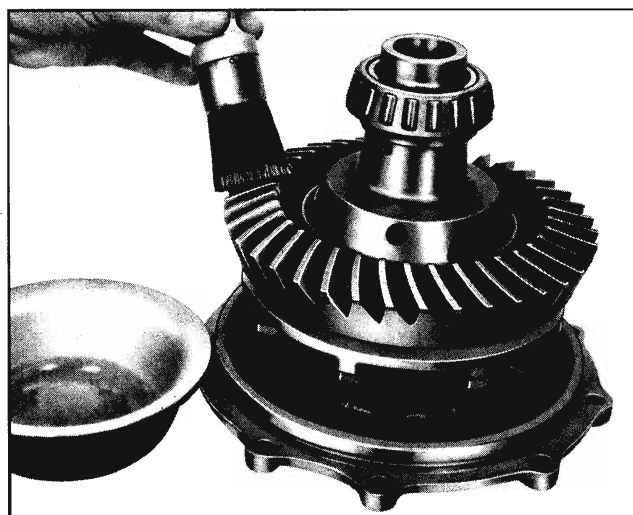

Fig. 4-61 Painting Ring Gear
19. Paint ring gear with red lead as described on page 4-27 (Fig. 4-61).